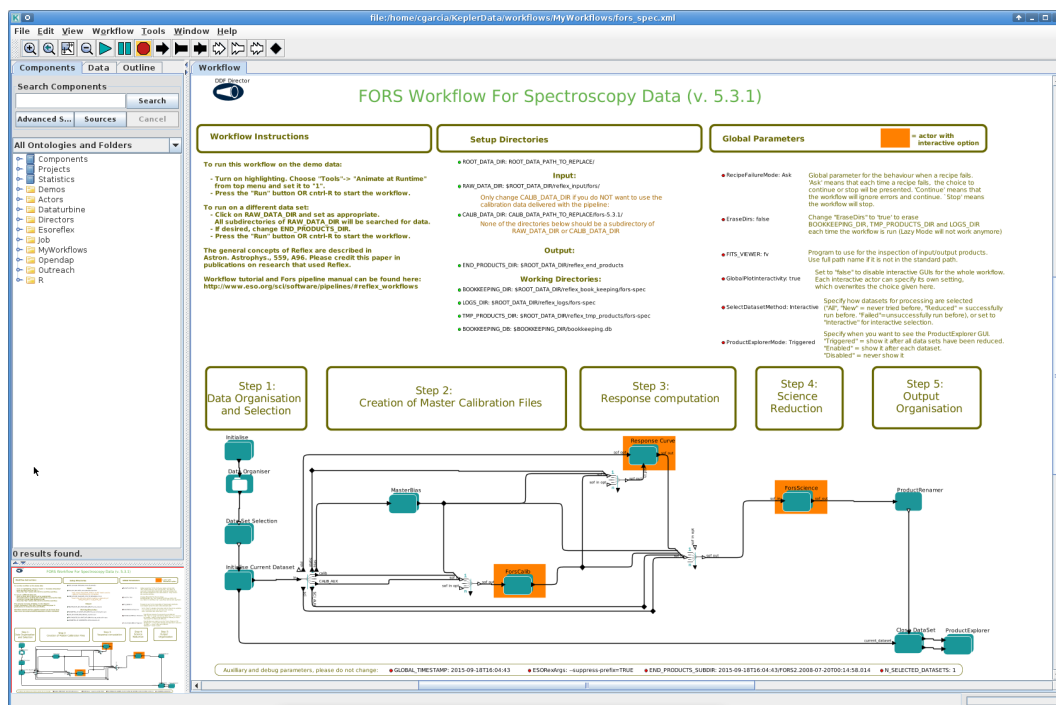

Figure 4.2: FORS2 workflow general layout.
2. Now open the FORS2 workflow by clicking on **File** -> **Open File**, selecting first `fors-5.2.6` and then the file `fors_spec.xml` in the file browser. You will be presented with the workflow canvas shown in Figure 4.2. Note that the workflow will appear as a canvas in a new window.